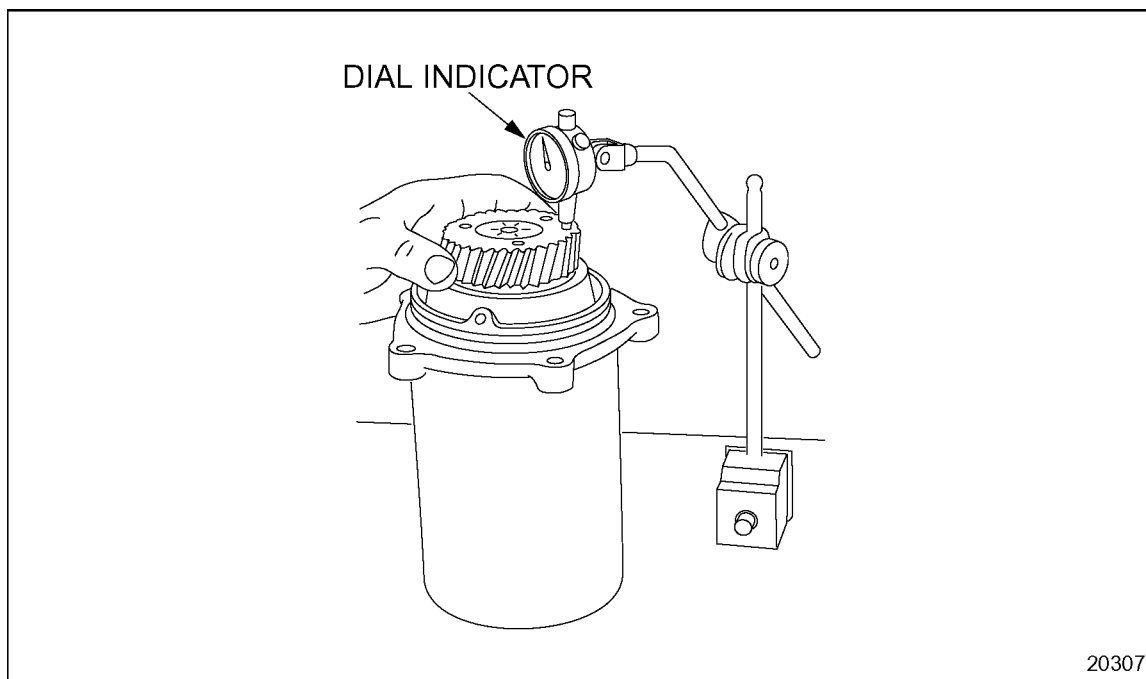

Figure 1-411 Accessory Drive Gear TIR Measurement
22. Support the accessory drive assembly. See Figure 1-411.
23. Assemble a dial indicator and magnetic base, so that the indicator stem rests on the face of the accessory drive gear just inboard of the drive gear teeth. See Figure 1-411.
25. Rotate the drive gear two full rotations. See Figure 1-411. As the gear is rotated, the dial indicator needle may register both to the left and right of zero.